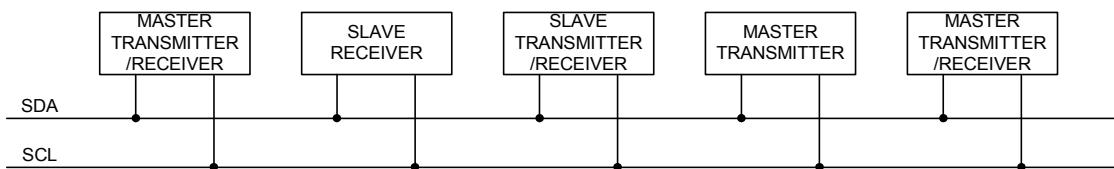

Figure 7 System configuration
The SH1108 supports both read and write access. The  $R/W$  bit is part of the slave address. Before any data is transmitted on the  $I^2C$ -bus, the device that should respond is addressed first. Two 7-bit slave addresses (0111100 and 0111101) are reserved for the SH1108. The least significant bit of the slave address is set by connecting the input SA0 to either logic 0(GND) or 1 (VDD). The  $I^2C$ -bus protocol is illustrated in Fig.7. The sequence is initiated with a START condition (S) from the  $I^2C$ -bus master that is followed by the slave address. All slaves with the corresponding address acknowledge in parallel, all the others will ignore the  $I^2C$ -bus transfer. After acknowledgement, one or more command words follow which define the status of the addressed slaves. A command word consists of a control byte, which defines Co and  $D/C$  (note1), plus a data byte (see Fig.9). The last control byte is tagged with a cleared most significant bit, the continuation bit Co. After a control byte with a cleared Co-bit, only data bytes will follow. The state of the  $D/C$ -bit defines whether the data-byte is interpreted as a command or as RAM-data. The control and data bytes are also acknowledged by all addressed slaves on the bus. After the last control byte, depending on the  $D/C$  bit setting, either a series of display data bytes or command data bytes may follow. If the  $D/C$  bit was set to '1', these display bytes are stored in the display RAM at the address specified by the data pointer. The data pointer is automatically updated and the data is directed to the intended SH1108 device. If the  $D/C$  bit of the last control byte was set to '0', these command bytes will be decoded and the setting of the device will be changed according to the received commands. The acknowledgement after each byte is made only by the addressed slave. At the end of the transmission the  $I^2C$ -bus master issues a stop condition (P). If the  $R/W$  bit is set to one in the slave-address, the chip will output data immediately after the slave-address according to the  $D/C$  bit, which was sent during the last write access. If no acknowledge is generated by the master after a byte, the driver stops transferring data to the master.